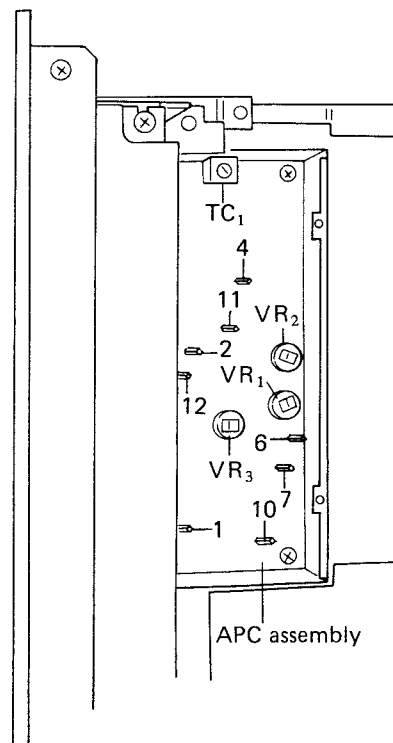

Fig. 7-2
5. Adjust the VR₃ of the APC ass'y to obtain a reading of +8V on the DC voltmeter (refer to Fig. 7-2).